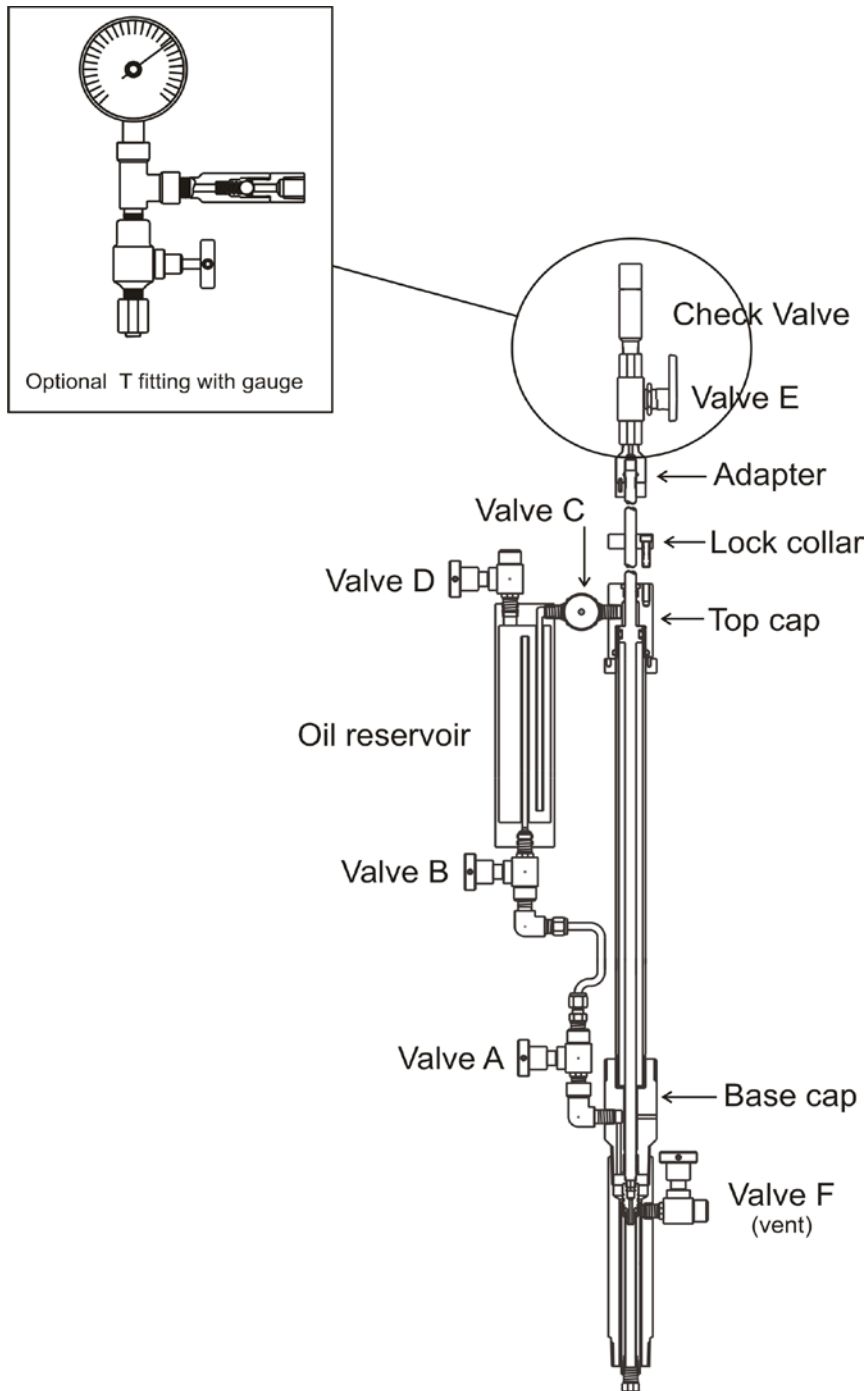

Figure 1
- a. Detach the tubing between Valve B and Valve A (see Figure 1).
- a. Loosen and detach the tubing between Valve B and Valve A (see Figure 1).
2.3.9 Connect the appropriate instrumentation to the unit's check valve (Valve E, Figure 1).